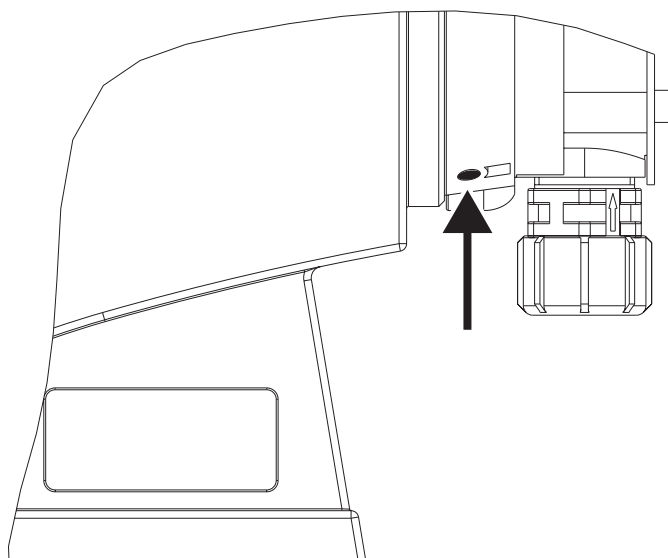
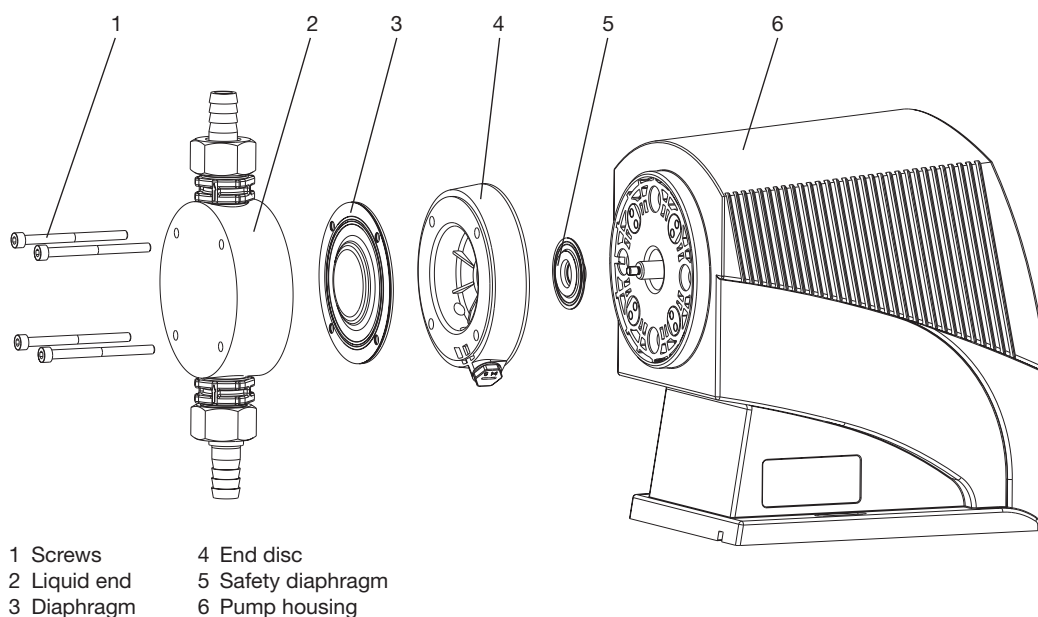

Fig. 25 Leakage hole
Fig. 26
- ▶ Check the entire delivery unit for leakproofness (in particular the leakage hole! see Fig. 25)
- ▶ Remove the liquid end (2) with the screws (1) from the pump (see Fig. 26).
- ▶ Reposition the liquid end (2) with the screws - the screws (1) should be positioned in the holes of the diaphragm (3) but not in the pump housing!
- ▶ Grab the pump housing (6) with one hand and clamp the diaphragm (3) with the other hand between the liquid end (2) and the end disc (4). Loosen the diaphragm (3) from the drive axis by slightly and jerkily turning the liquid end (2) and the end disc (4) clockwise
- ▶ Remove the liquid end (2) with the screws (1) from the diaphragm (3) and unscrew them fully from the drive axis.
- ▶ Remove the end disc (4) from the pump housing (6)
- ▶ Check the condition of the safety diaphragm (5) and replace, if necessary.
- ▶ Push the safety diaphragm (5) onto the drive axis only until it is flush with the pump housing (6) - do not push further!
- ▶ Screw on the new diaphragm (3) onto the drive axis up to the stop by way of trial - this must be successful, otherwise the pump will not dose precisely later!
- ▶ When the pump is running, slowly turn the diaphragm (3) clockwise until the 4 holes of the diaphragm are flush with those of the pump housing (6)
- ▶ Hold the diaphragm (3) in this position, set the stroke length to 0%, and stop the pump.
- ▶ Unscrew the diaphragm (3) again.
- ▶ Position the end disc (4) on the pump housing (6).
- The leakage hole must show to the bottom in the later installation position of the delta® (see Fig. 25)!
- Position the end disc (4) directly in the correct position on the pump housing (6)! Do not twist the end disc on the pump housing to prevent that the safety diaphragm (5) distorts!
- ▶ Insert the diaphragm (3) into the end disc (4).
- ▶ Hold the end disc (4) and tighten the diaphragm (3) clockwise until it is seated firmly (the turning resistance of the return spring becomes noticeable).
- Do not excessively turn the diaphragm (3)!
- The end disc (4) must remain in its position to prevent that the safety diaphragm distorts!
- ▶ Position the liquid end (2) with the screws (1) onto the diaphragm (3) and the end disc (4) (the suction port must show to the bottom in the later installation position of the pump)
- ▶ Screw down the screws (1) and tighten crosswise (tightening torques see above)